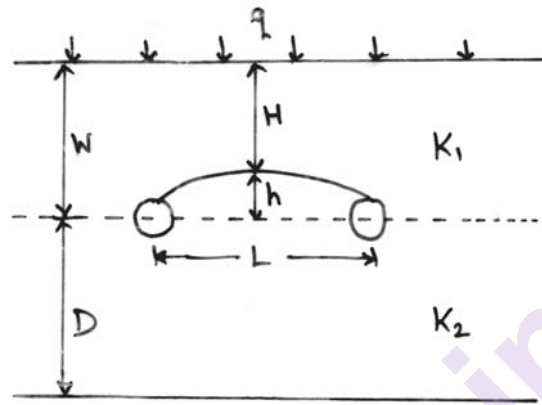

Fig. 7 (b)
- b) Determine the required drain spacing for the basic design criteria  $q = 8$  mm/d,  $H = 0.6$  m, pipe with outer diameter = 0.2 m and wet entry perimeter ( $u$ ) = 0.3 m.  $K_1 = 2.1$  m/day,  $K_2 = 1.1$  m/day.  $W = 1$  m,  $D = 3$  m. Refer Fig. 7 (b). Use Hooghoudt's formula. Take only two trials. [9]